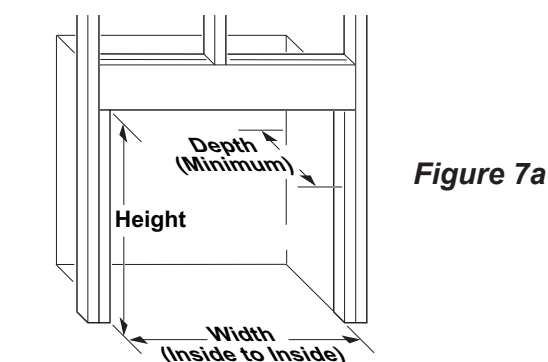
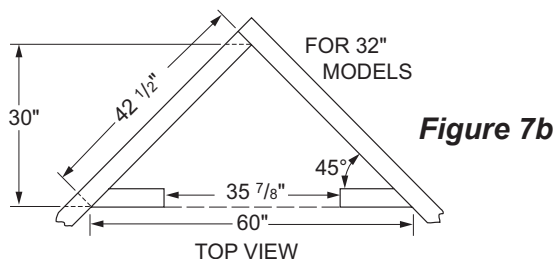

Figure 7a
Figure 7b
1. Frame in rough opening. Firebox framing should be constructed of 2 x 4 lumber or heavier. Use dimensions in table and rough opening layout in **Figure 7a**. Adjust framing so that firebox is flush with finished wall surface. If installing in a corner, use dimensions in **Figures 7b, 7c and 7d** for rough opening.